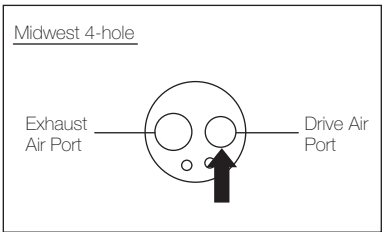

Fig. 6
- 2) Insert the tip nozzle into the Drive Air Port of the motor (iPA). Hold the motor and spray for approximately 2-3 seconds. Apply lubricant until it comes out from the exhaust air port (see Fig. 6) for at least 2 seconds.